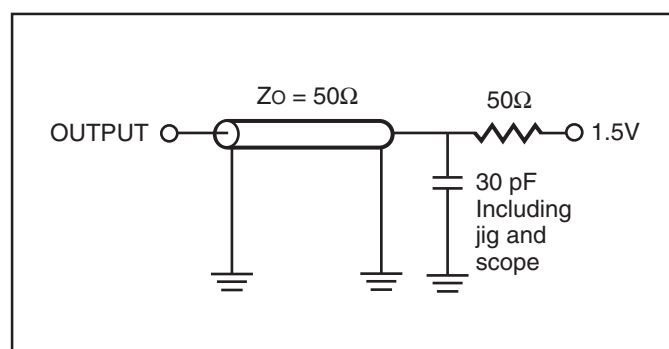

Figure 1.
- Test conditions assume signal transition times of 5 ns or less, timing reference levels of 0.9V/1.5V, input pulse levels of 0.4 to $V_{DD}-0.2V$ /0.4V to $V_{DD}-0.3V$ and output loading specified in Figure 1.
1. Test conditions assume signal transition times of 5 ns or less, timing reference levels of 0.9V/1.5V, input pulse levels of 0.4 to V_{DD}-0.2V/0.4V to V_{DD}-0.3V and output loading specified in Figure 1.